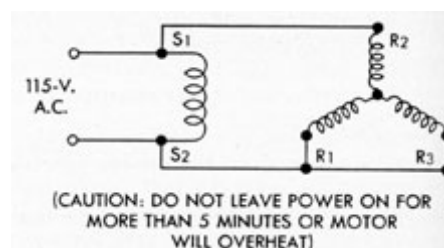

Figure 13-27. Wiring diagram
**13F30. Setting the speed repeater to electrical zero.** (See Figure 13-27.) Set the speed
repeater to electrical zero as follows: Contact the terminals of the speed repeater S1 to R2 to one side of the line. Connect S2 to R1 and R3 to the other side of the line as shown in Figure 13-27. Energize the unit. Do not leave the power on for more than 5 minutes, or the motor will overheat. When the unit is energized, the shaft will assume a definite position (zero position). Loosen the three screws that secure the pointer to the pointer hub, and shift the pointer to the zero position on the dial. Lock the pointer in this position by tightening the three pointer screws.